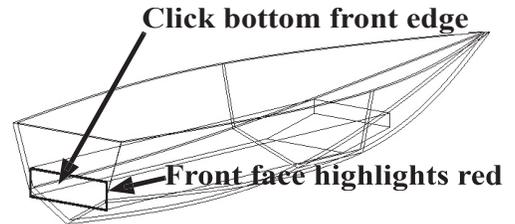

Fig. 9
Step 13. Click the bottom back edge, **Fig. 9.** The back face should highlight red. If it does not, click Other.